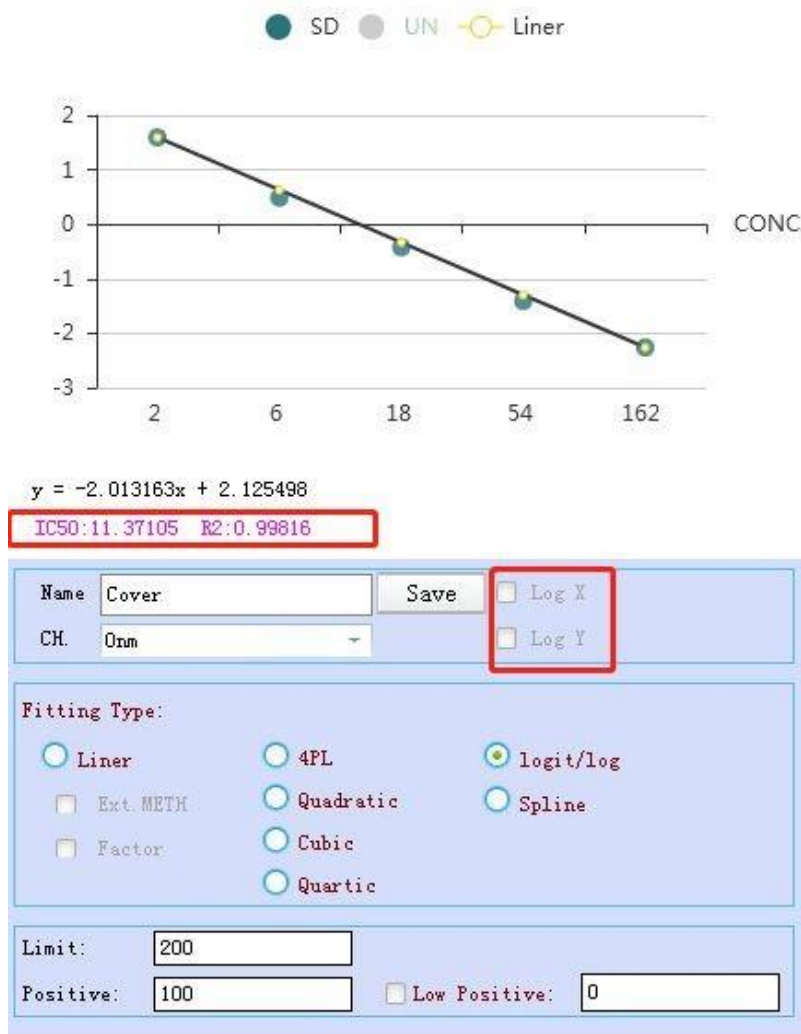

Fig 36
5. For this curve fitting, radio button “Log X” and “Log Y” can not be selected as Fig 36.